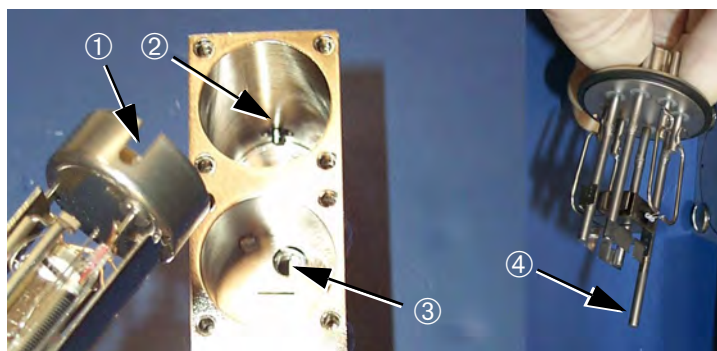

Figure 4-24 Spectrometer Tube Reassembly
1. Carefully reassemble the spectrometer tube (Figure 4-24) in the reverse order of these instructions.
1. Replace the ion source (see Figure 4-24 on page 4-19).
The ground slit plate has a hole in it that must be aligned with the hole on the bottom of the spectrometer tube body ion source cavity ③ (Figure 4-24).
The ion source must be aligned so that its alignment pin ④ (Figure 4-24) falls in the center of this hole.